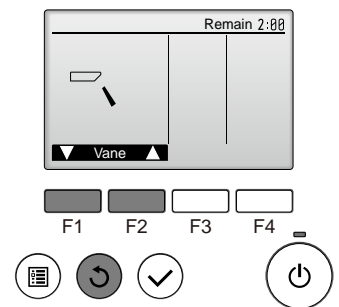

Fig. 7-7
- ① Check the auto vane with the buttons. (Fig. 7-7)
- ② Press the button to return to "Test run operation".
- ③ Press the .